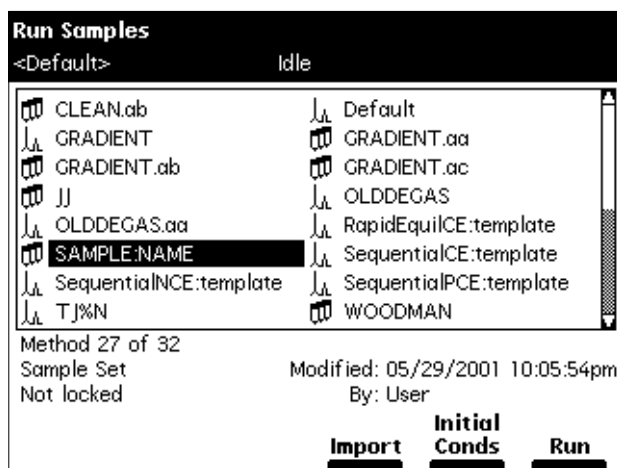

Figure 4-2 Run Samples Screen
1. Press the **Run Samples** screen key in the Main screen. The Run Samples screen appears (Figure 4-2), listing the available separation methods and sample sets.
2. Press the **Run Samples** screen key in the Main screen. The Run Samples screen appears (Figure 4-2).